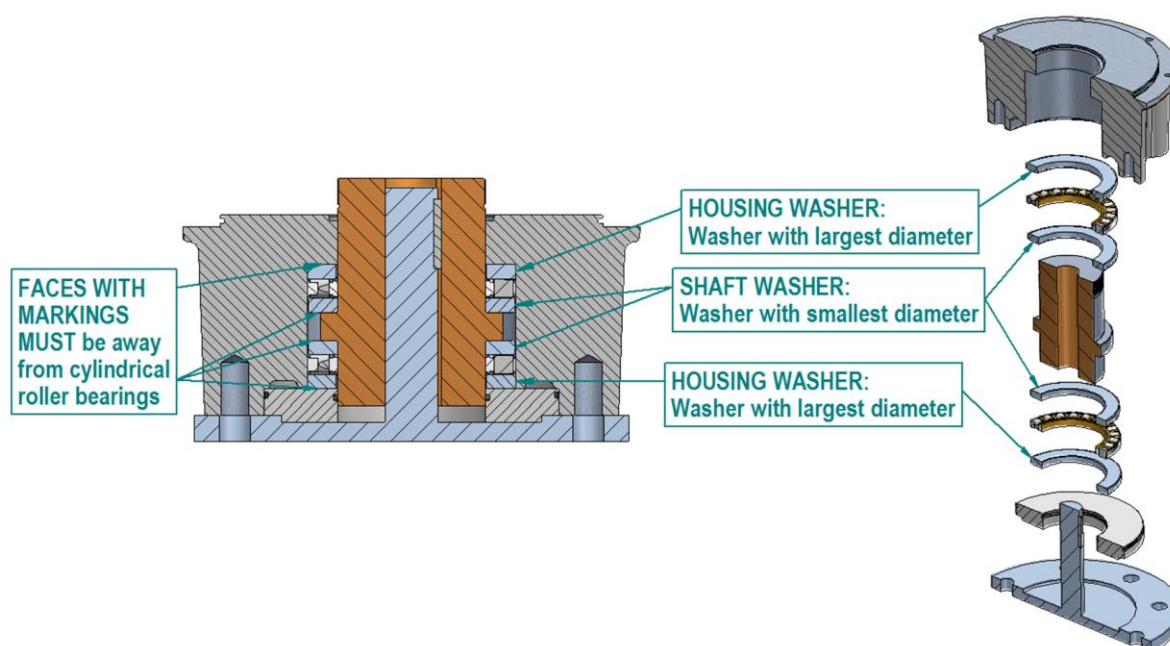

Figure 8 - Valve Stem Assembly with Cylindrical Roller Bearings
- Instead of bullet points 3 and 4 in Section 6.2.1, it is recommended that the cylindrical roller bearings and machined output sleeve are assembled onto the valve stem first and then the gearbox lowered to locate on the output sleeve assembly. See Figure 8 for assembly details: